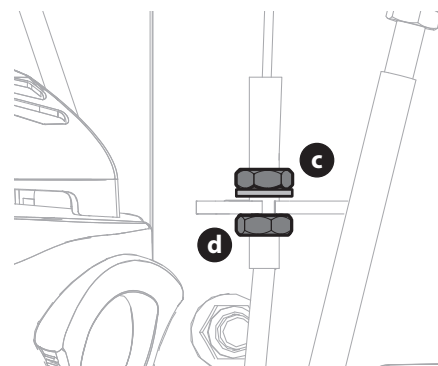

Fig. 24
- Loosen top nut (c) by turning three to four turns counterclockwise (Fig. 24).
- Tighten bottom nut (d) by turning three to four turns counterclockwise (Fig. 24).